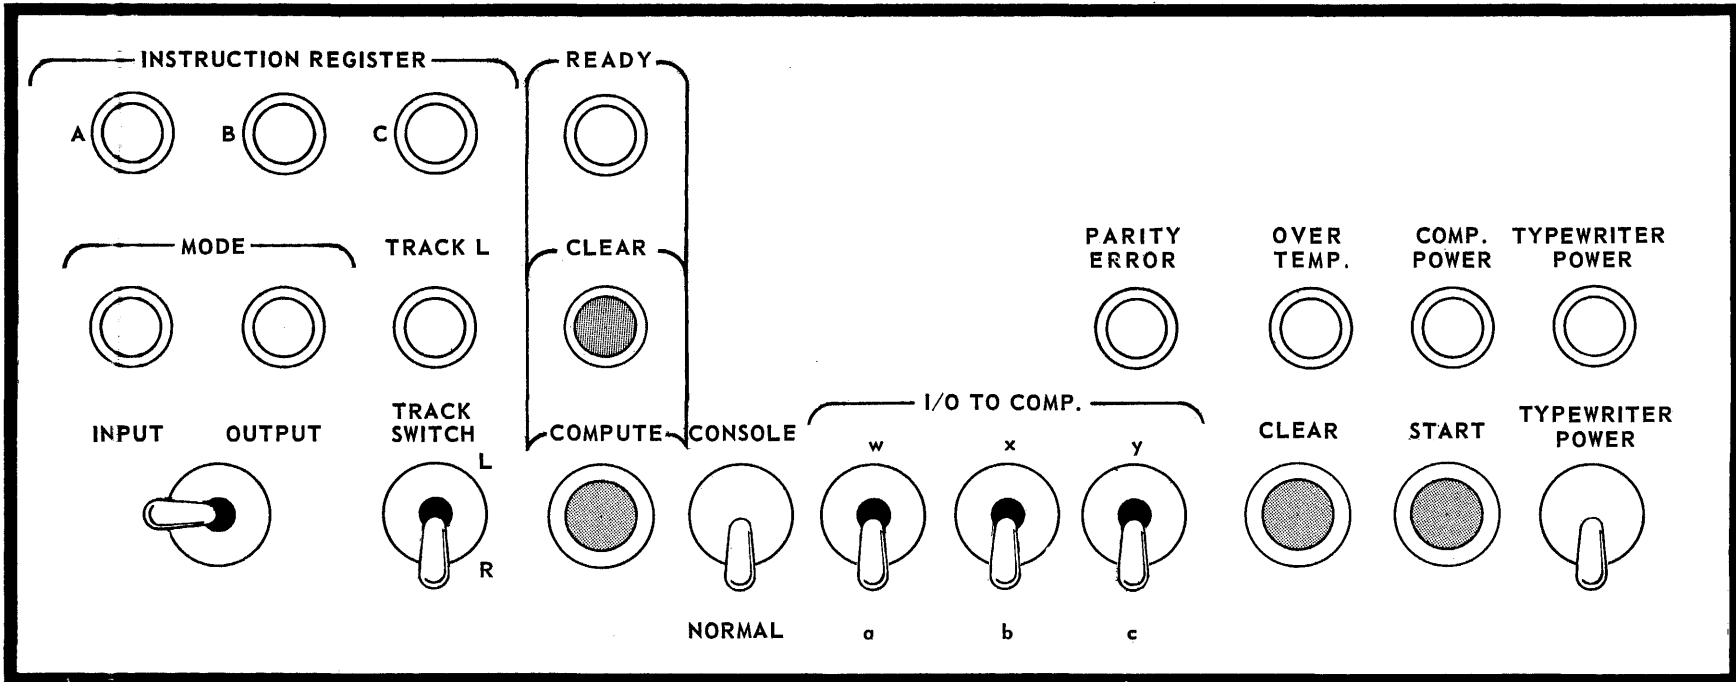
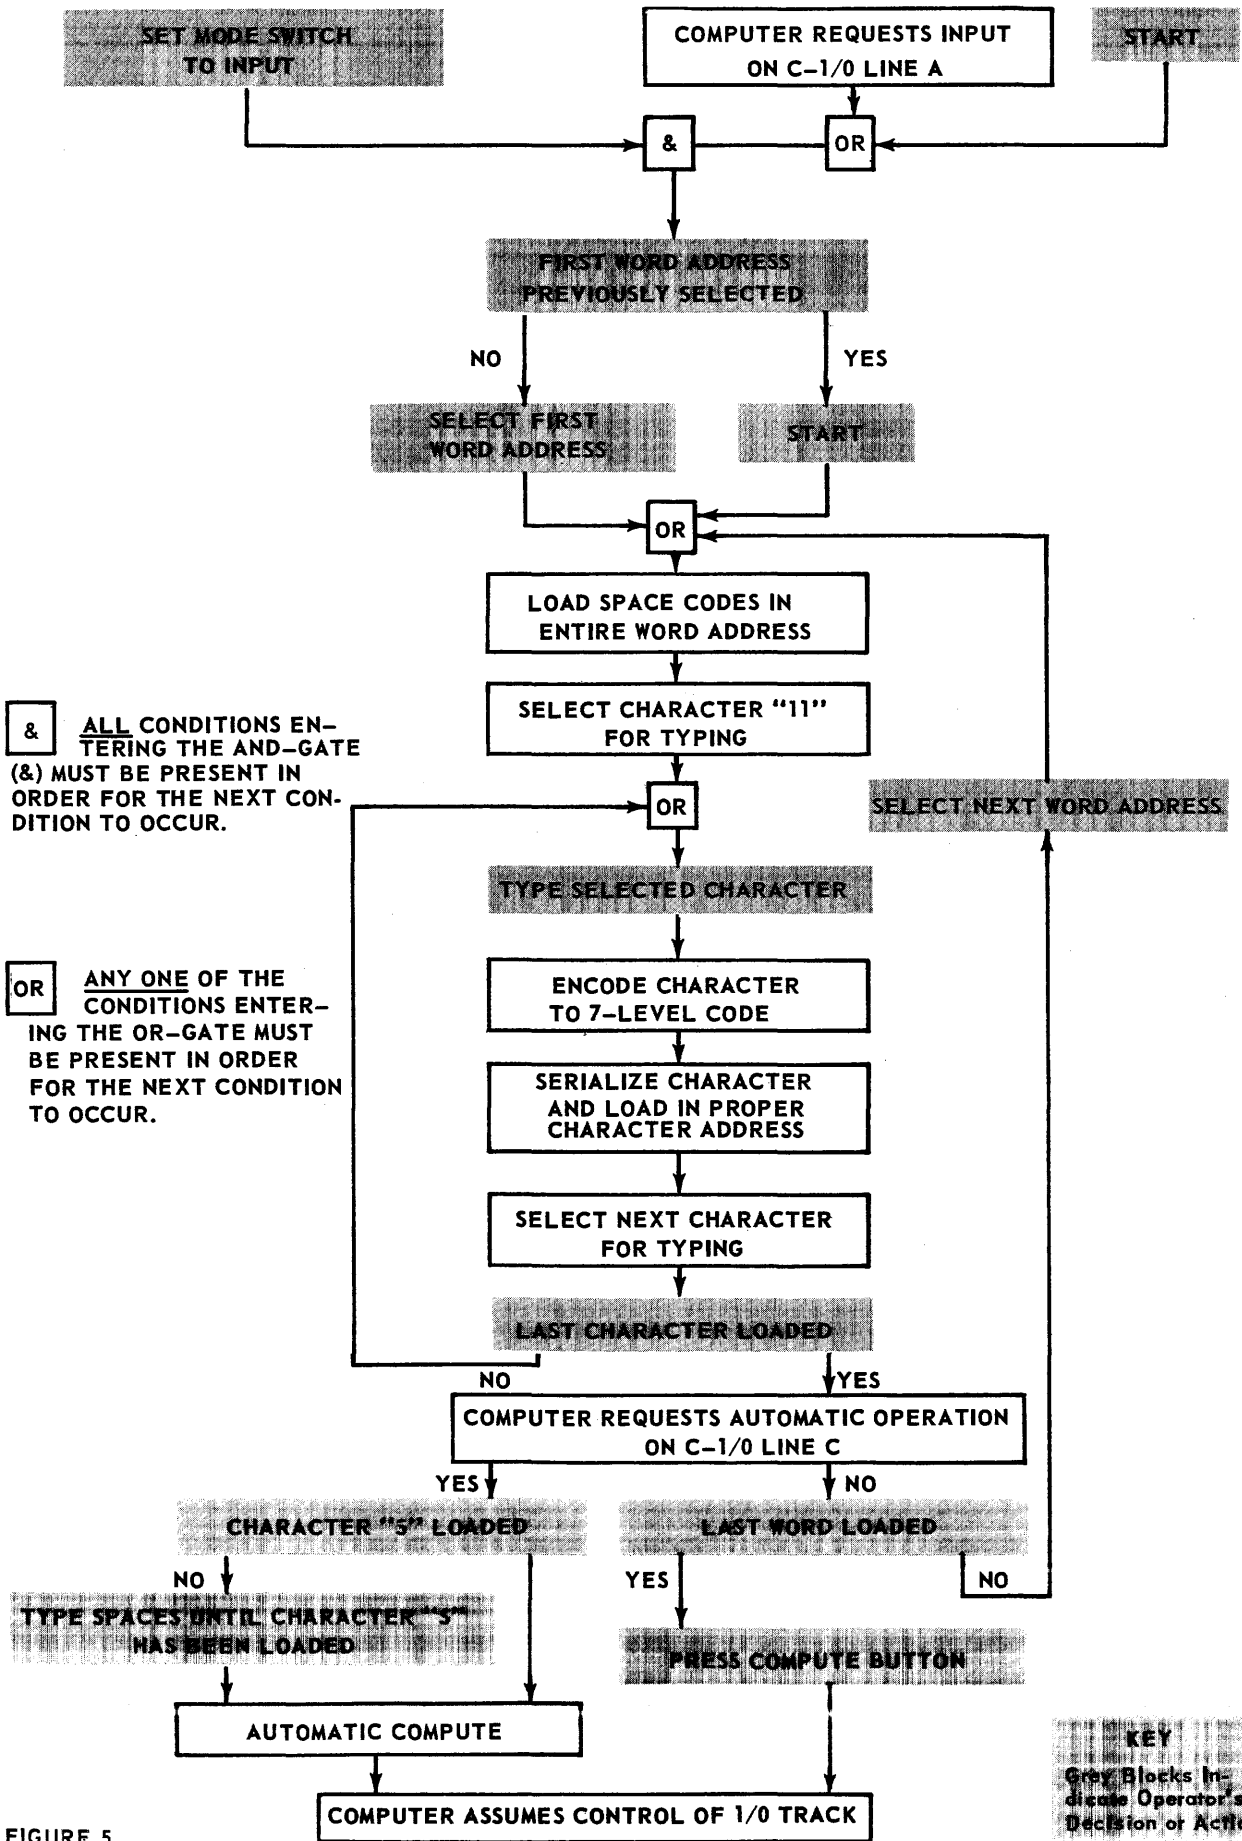

FIGURE 4
FIGURE 5
The typewriter may be placed "not ready" by either the operator or the computer program. A Clear button (below Ready button, Figure 4) on the typewriter control panel may be used to place the typewriter in a not ready condition. This button clears "ready." The typewriter will also be placed in a not ready condition by the computer program via Computer to Input/Output Control Lines. These control lines, discussed later, instruct the typewriter to type out information from the output track of the computer or to prepare for input. Computer to Input/Output Control Line C will place the typewriter in a not ready and then ready condition (see Computer to Input/Output Control Lines below).
The Lights labeled A, B, and C, under "Instruction Register" on the typewriter control panel (see Figure 4, B) indicate the mode of operation. Light A indicates an input operation; light B indicates an output operation; light C indicates automatic operation. Light C will only be lit in conjunction with either A or B. When C is lit in conjunction with A, the typewriter is performing an automatic input operation; when lit in conjunction with B, the typewriter is performing an automatic output operation.
In Univac File-Computer Model 1 installations, there are three 3-position toggle switches, under "I/O to Comp" on the typewriter control panel (see Figure 4, B) which allow selection by the operator of high-speed Input/Output to Computer Control Lines W, X, and Y or Input/Output to Computer Control Lines a, b, and c. The setting of the toggle switches to the upper positions selects high-speed Input/Output to Computer Control Lines W, X, and Y. These control lines produce a Special Out from the Demand In sequence. The
The Inquiry Typewriter can be used to enter information into the computer and to receive information from the computer. Control of the typewriter is basically manual and is provided by switches and buttons on the control panel (see Figure 4). The control panel also provides signal lights to indicate the status of operations.
Each input message may be as long as ten 12-character words. The operator selects the drum word address for each word of the message by pressing the appropriate Word Address button, 0 through 9, on the typewriter control panel (see Figure 4, A). By using the track switch toggle, the operator is able to use another 120 characters of input. As the 12 characters of a word are typed in, their addresses are selected sequentially by a character address counter (see Figure 4, A) and are displayed by lights on the typewriter control panel. Figure 5 is a flow diagram showing the sequence of events occurring during one complete input operation.
After the operator positions the Normal/Console switch to its appropriate setting, two requirements must be met to set up an input operation: 1) the Input/Output switch must be set to Input, and 2) a signal calling for Input must be received over Computer to Input/Output Control Line A, lighting Instruction Register indicator A (see Figure 4). In the absence of such a signal, the operator may press the Start button with the Input/Output switch set to Input, in order to achieve the same result. The Start button is inoperative when the typewriter is "not ready."
An automatic typewriter operation is set up by a signal over Computer to Input/Output Control Line C. The Computer to Input/Output Control Line C signal lights Instruction Register indicator C, and causes an automatic Compute signal when character "S" of the selected input word has been typed. The automatic Compute signal is identical to that generated when the Compute button is pressed, placing the Inquiry Typewriter in the Ready status and lighting the Ready light (see Figure 4, B).
Two modes of Input operation may be used: NORMAL or CONSOLE. The setting of the Normal/Console two-way toggle switch on the typewriter control panel (see Figure 4, B) determines which mode is to be used for input.
Normal input, selected by setting the Normal/Console switch to NORMAL, (see Figure 4, B) is used when the typewriter is connected to any demand station of either a Model 0 or a Model 1 Univac File-Computer System. The Normal mode allows the entering of data into the computer. The data is processed, under control of the main computer program, in much the same manner as source data from punched cards, paper tape, or magnetic tape. The main computer program provides for periodic testing, with the Test Demand In instruction, the demand station to which the typewriter is connected.
2. A signal calling for Output must be received over Computer to Input/Output Control Line B, lighting Instruction Register indicator B. (See Figure 4.) In the absence of such a signal, the Start button may be pressed, with the Input/Output switch set to Output in order to produce the same result. The Start button is inoperative when the typewriter is "ready."
control panel (see Figure 4, B) determines which mode is to be used for output.